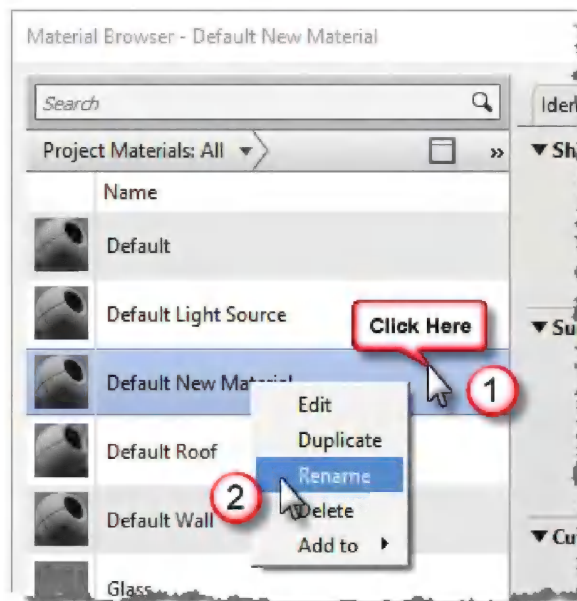

FIGURE 15-4.8 Naming new material
18. Right-click the new *Material* and **Rename** it to **Box Material**; see Figure 15-4.8.